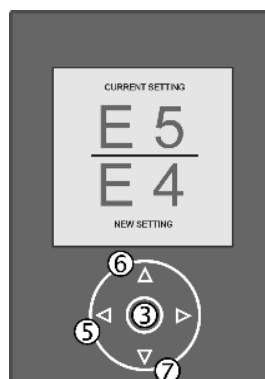

Fig. 34
- ▶ To decrease the water intake time: Press Up button *Fig. 34 (6)*.
- ▶ To increase the water intake time: Press Down button *Fig. 34 (7)*.